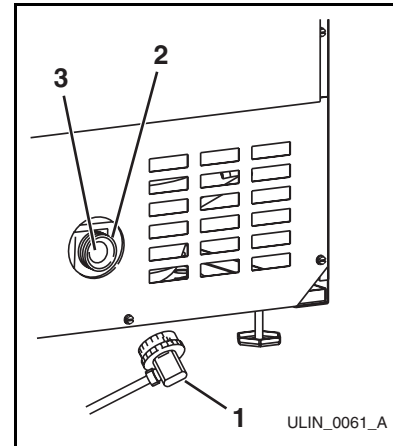

Figure 12
4. Disconnect the hose connector (**Figure 12, 1**) from the water solenoid valve (**Figure 12, 2**).
5. **DO NOT** remove the inlet screen (**Figure 12, 3**) from the water solenoid valve. Use a toothbrush to gently clean any sediment from the inlet screen.
6. Re-connect the water supply hose connector (**Figure 12, 1**) to the water solenoid valve (**Figure 12, 2**). Tighten the connector securely.